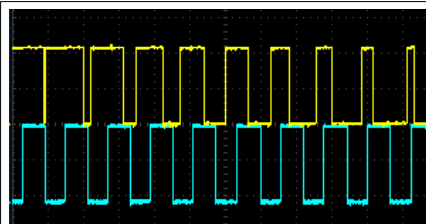

Figure 10c: Phase-shifting Half-R
- The width of the Half-R pulse is always 50% of the envelope time. Changing the Skew will change the phase of the Half-R output. See figure 10c.